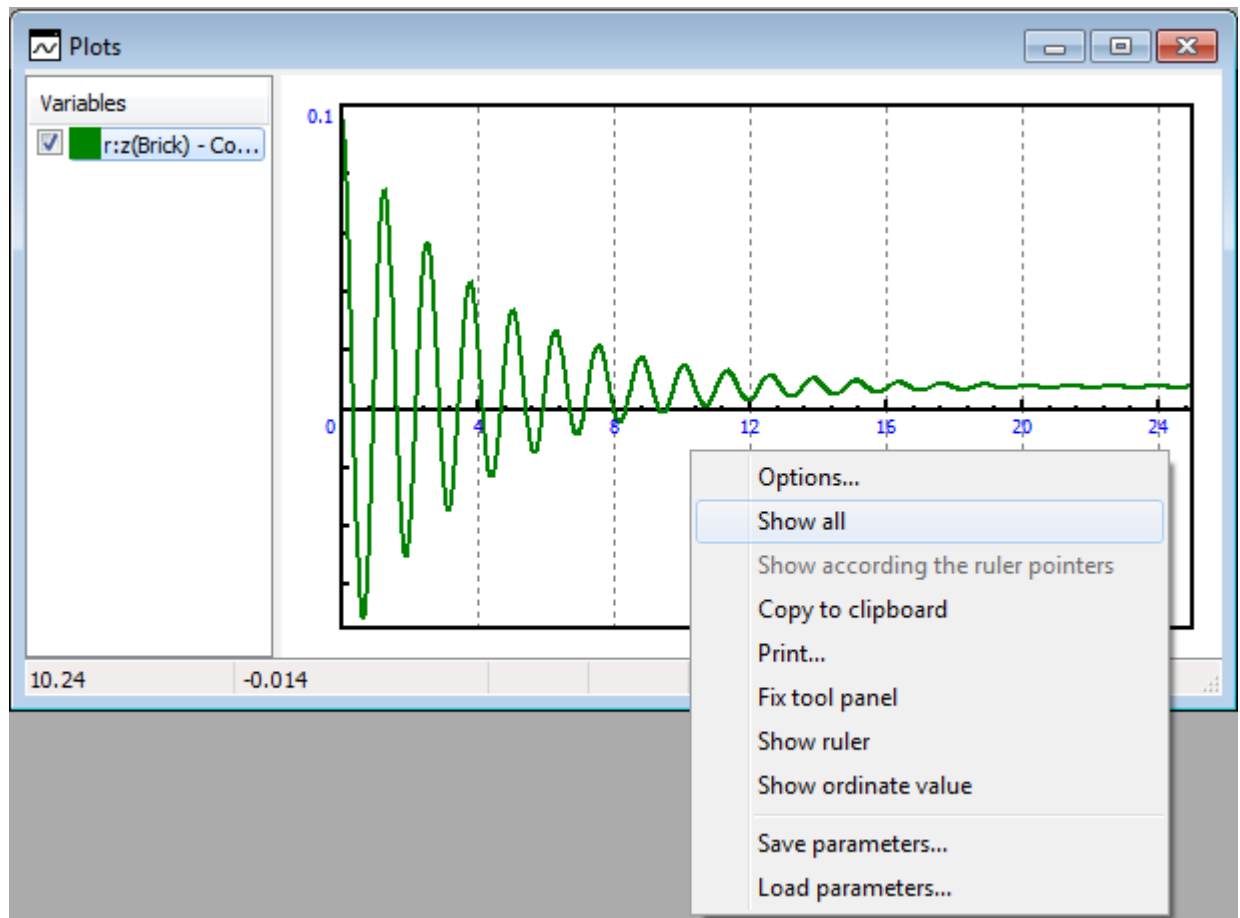

Figure 2.21. Graphical window after the first experiment
- Click the **Full view** button in the drop-down tool panel in the top or click the **Show all** menu command in the context menu, see in the Figure 2.21. Plot now fits the window.